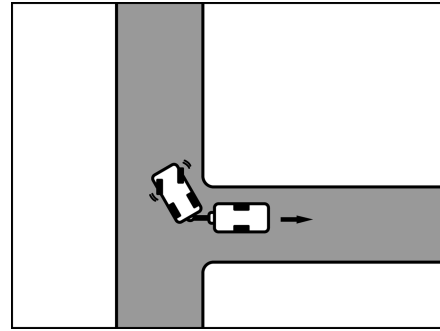

Fig. 13 Steer to the right
- Turn the steering wheel to the right and reverse with caution (Fig. 13).